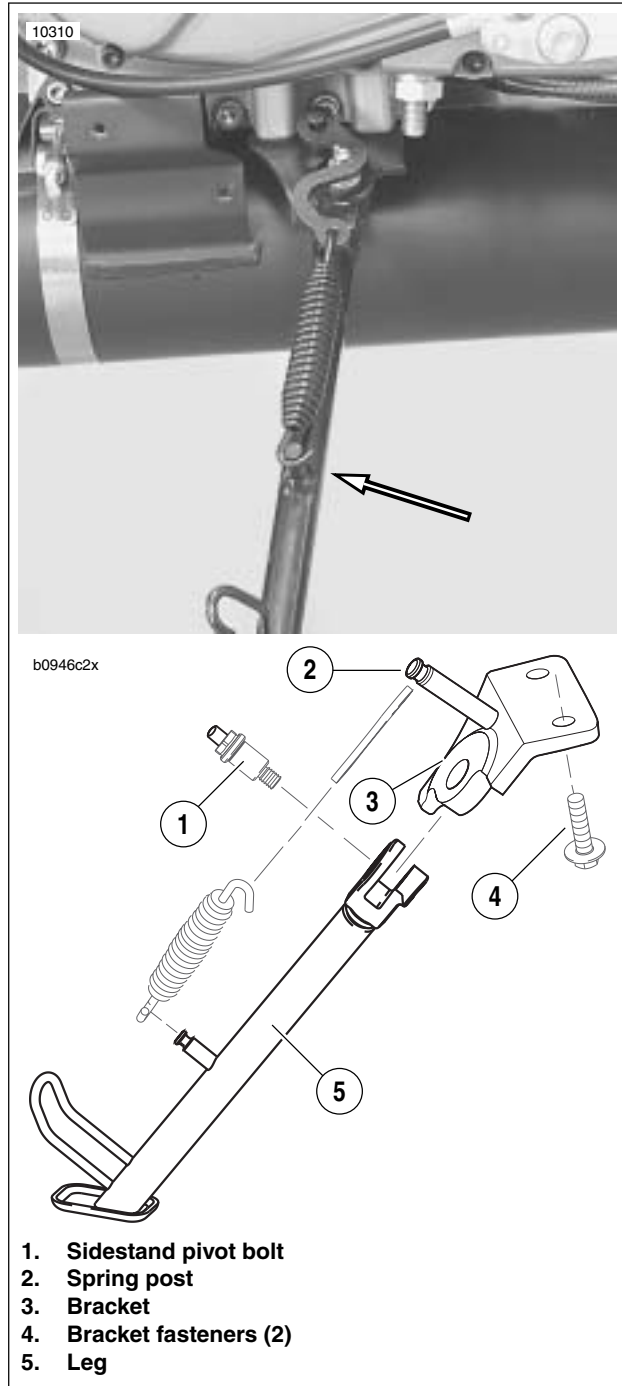

Figure 2-128. Sidestand Assembly (Extended)
2. See Figure 2-128. Remove fasteners (4) securing sidestand bracket (3) to frame.